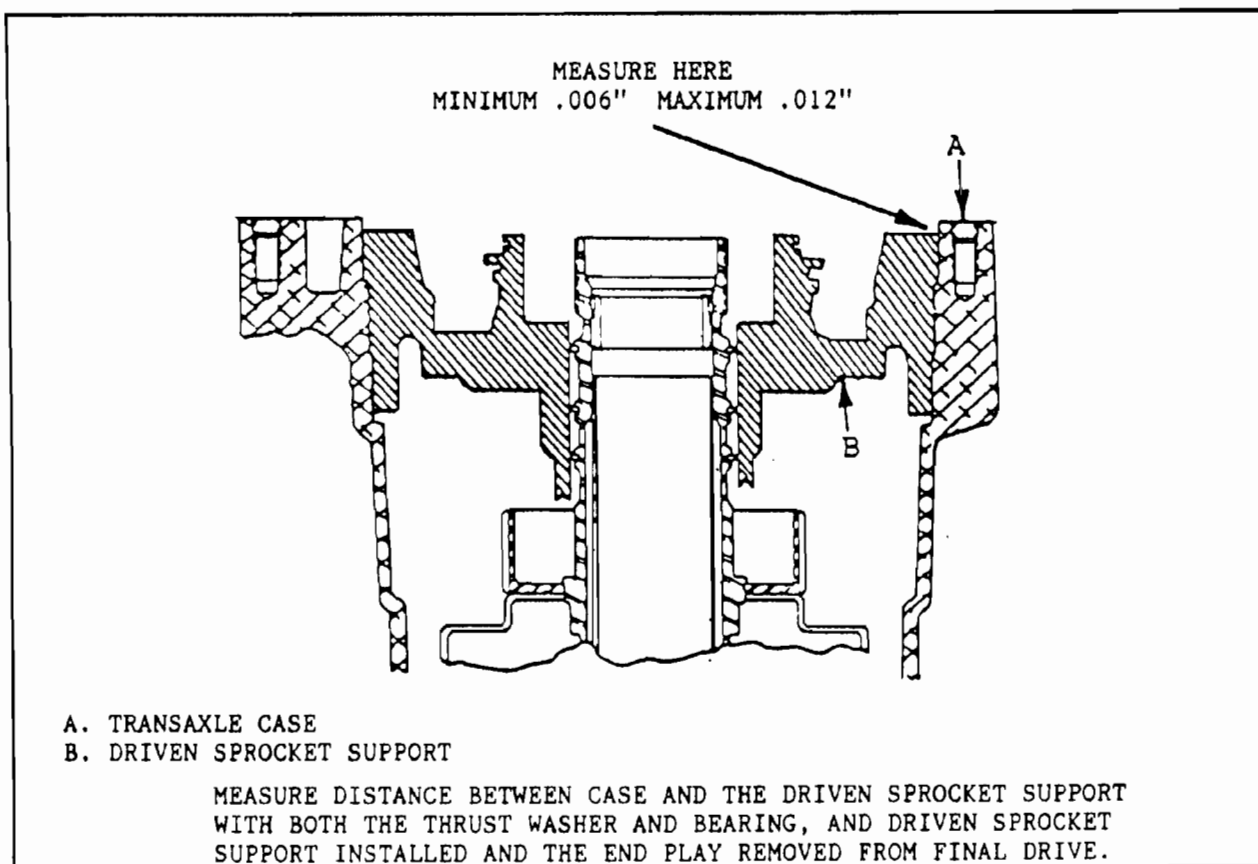

Figure 34
- (1) Remove all final drive end play with the loading fixture tools, or a large screwdriver through the hole in the case.
- (2) Install selective washer and the bearing on the input housing.
- (3) Install driven sprocket support into the case using the two long pump bolts as tools.
- (4) Measure with feeler gage and straight edge, the distance between the driven sprocket support and the case (See Figure 34).